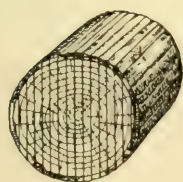

FIG. 65.
**Cutting up the Log**, and different methods of sawing are employed according to the purpose for which the wood is to be used. The common method of *plain sawing* is shown in Fig. 65. With this the only waste produced is in the sawdust and bark removed. But you will notice, by looking at the